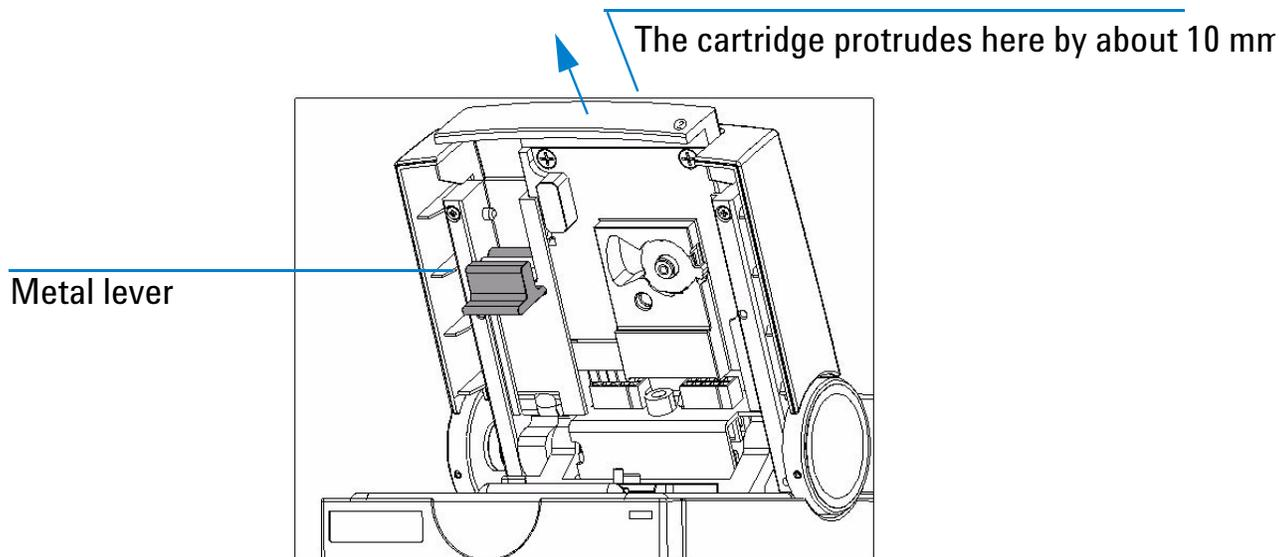

Figure 17 Removing the pressure cartridge
- 2 Open the lid and pull down the locking lever on the left inside the lid to the open position as shown in Figure 17, “Removing the pressure cartridge”. The cartridge is pushed out about 10 mm.